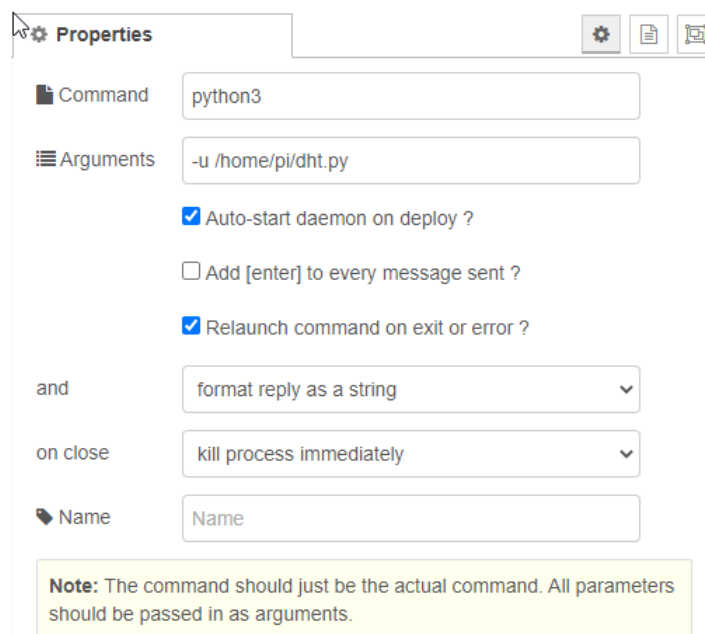

Figure 2.5: Node Settings
- Drag the **daemon** node from the sidebar to the workspace area. Double click on it, this will open the properties window, **configure** it as you see in Figure 2.5.